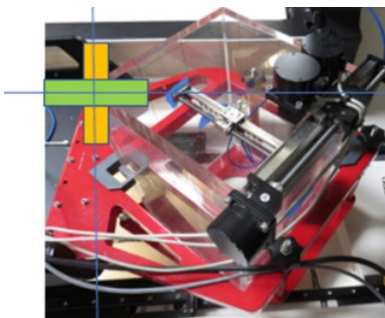

Figure 1-6. Inclinator
d. Place the Inclinator at the corner of the tank facing you. Achieve an angle of zero using A & B knobs, then use C to level the tank along the axis of the patient table (see Figure 1-6).